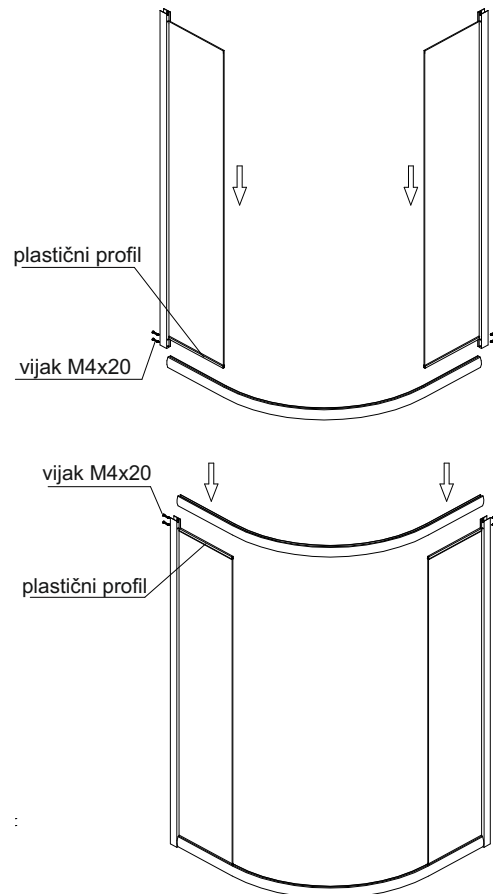

Fig. 4
- 4) Use the M4x16 screws(4) to connect the bending rail(2) and fixing door(5). As Fig. 4